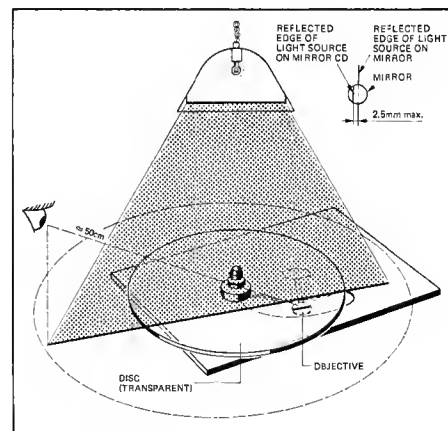

Fig. 4.19
- Set up the player mechanism in such a way that the light source forms a 90 degree angle to the pickup arm (see Fig. 4.19).